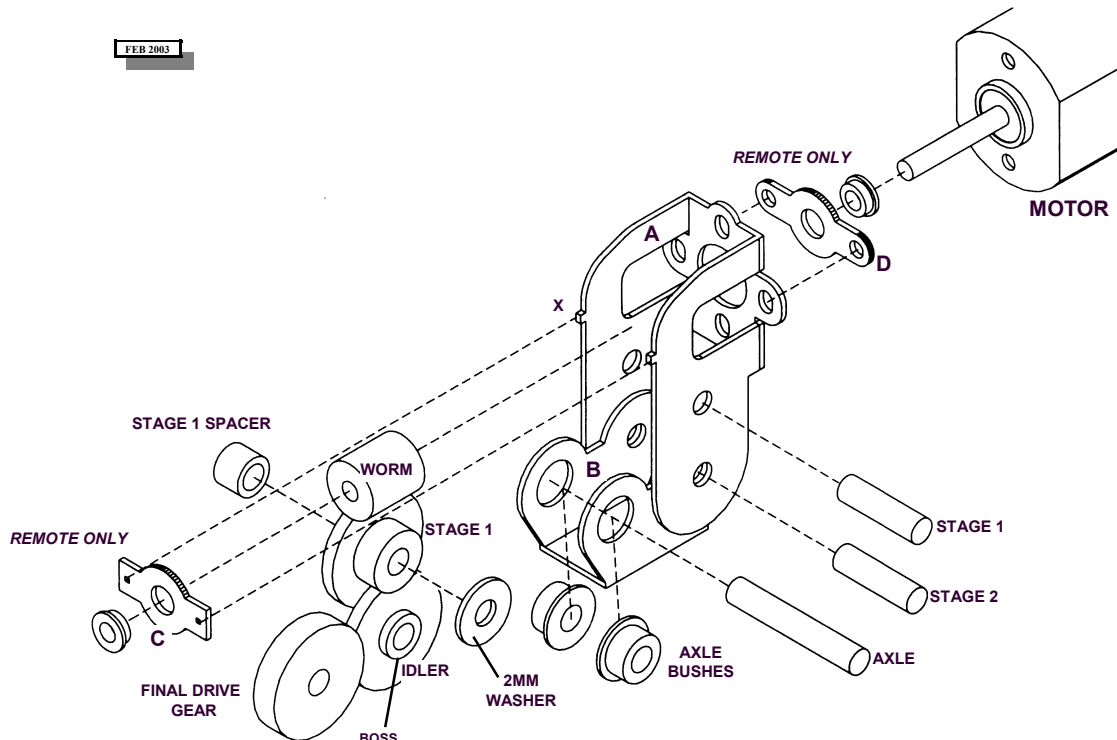

FIG. 1
Study Figs 1 and 2. Before cutting the gearbox etch from the fret, progressively ream out each of the **holes** to the sizes shown in Fig 2. Components should be offered up until they a tight push-fit in their holes. Once the gearbox is assembled, the shafts are fixed but the gears are free to revolve. Remove burrs by inserting the tip of a drill bit (of much larger diameter than the hole) and gently rotating it between your fingers.
Now cut the etches from the fret with a heavy blade and trim off the tabs, taking care not to accidentally remove any locators. **Fold up the gearbox** (A) as shown in Fig. 1, using flat nosed pliers to grip the motor mounting plate near the bend lines when doing so. This will prevent the plate from accidentally buckling across the hole centres. All bends are 90°, with the bend lines on the inside of the gearbox. Add fillets of solder to the inside of the folds to strengthen the gearbox. If you are using the **remote attachments**, open out the small location holes in the front attachment (C) so they fit snugly over the locators (X) on the main gearbox etch, and then solder it in place. Now fold up the final drive carriage (B) and strengthen with solder, as above. De-flux the gearbox and carriage by scrubbing them with household cleaner, then rinse and allow to dry. If they are likely to be visible then **paint** them black.
Refer to Fig. 1. The stage 1 double gear will be one of three types - 15/10T (30:1), 20/10T (40:1) or 27/10 (54:1) - depending on the overall reduction ratio of the gearbox. Fit the **stage 1 gearshaft**, double gear (according to ratio) the spacer bush and the etched thrust washer (with the ribbed side facing the gear) into the gearbox. Sight through the opening in the gearbox sides to check the mesh with the worm - there should be daylight between the gear and the worm, but avoid having too much backlash. Some modellers may prefer a deeper mesh (especially for a heavily loaded loco) but avoid 'bottoming out' the gears. If the mesh is too shallow, the gears may wear or even come out of mesh. If necessary, loosen the motor fixing screws, adjust the mesh and then lightly glue the shaft in place.